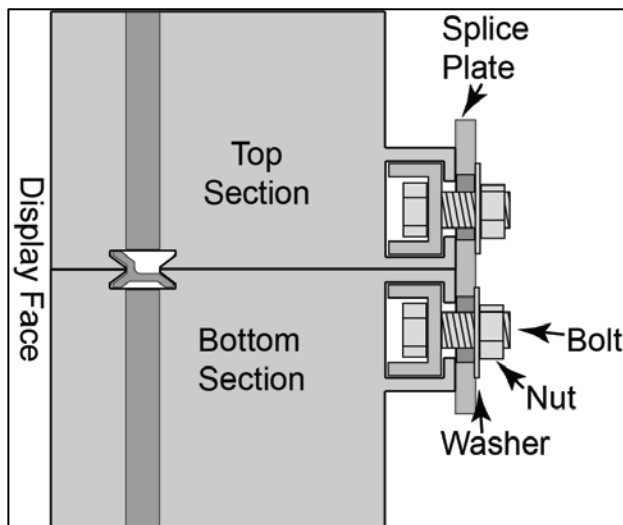

Figure 14: Completed Splice Plate Installation
11. Starting at one end of the display, place the flat splice plates over the bolts and place a nut and washer on each bolt. Refer to **Figure 14**.
12. Using an impact wrench, tighten all of the nuts on the mounting plate. Refer to **Figure 14**.